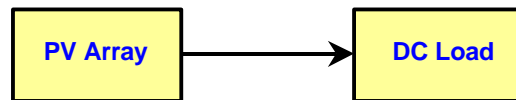

Figure 7. Direct-coupled PV system.
A. The simplest type of stand-alone PV system is a *direct-coupled system*, where the DC output of a PV module or array is directly connected to a DC load (Figure 7). Since there is no electrical energy storage (batteries) in direct-coupled systems, the load only operates during sunlight hours, making these designs suitable for common applications such as ventilation fans, water pumps, and small circulation pumps for solar thermal water heating systems. Matching the impedance of the electrical load to the maximum power output of the PV array is a critical part of designing well-performing direct-coupled system. For certain loads such as positive-displacement water pumps, a type of electronic DC-DC converter, called a *maximum power point tracker (MPPT)* is used between the array and load to help better utilize the available array maximum power output.